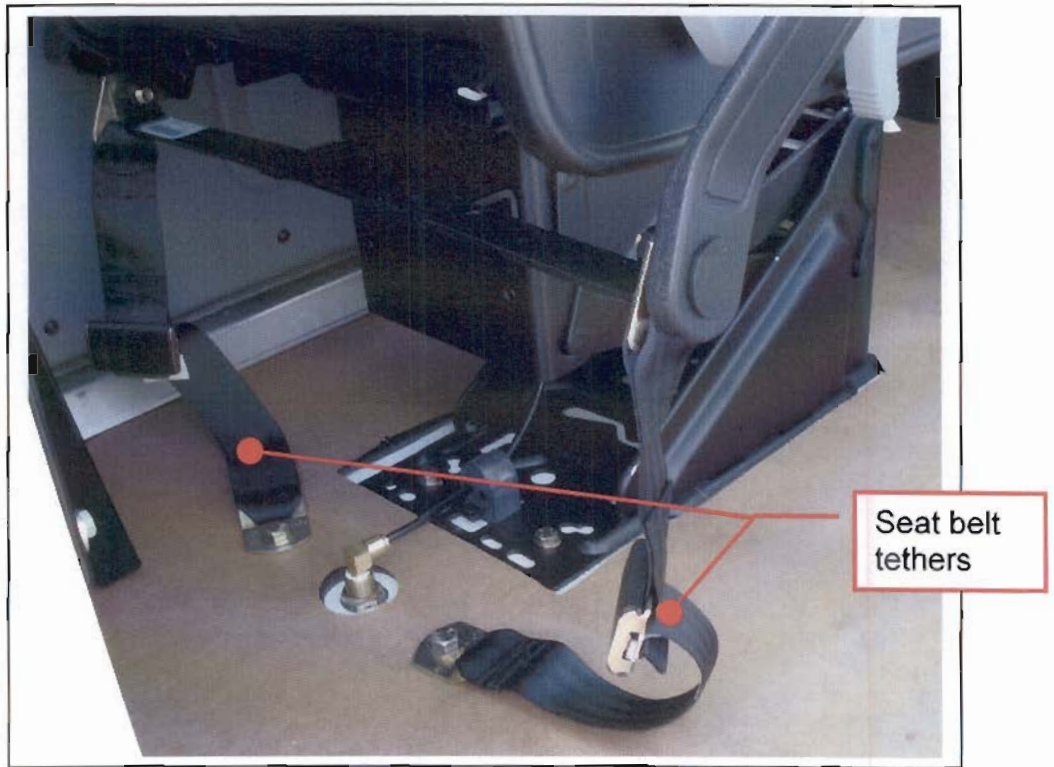

Figure 1
1. Locate the tethers on both sides of the seat. The tethers are the portions of the seat belt that are attached to the seat frame and the floor of the cab. See figure 1.